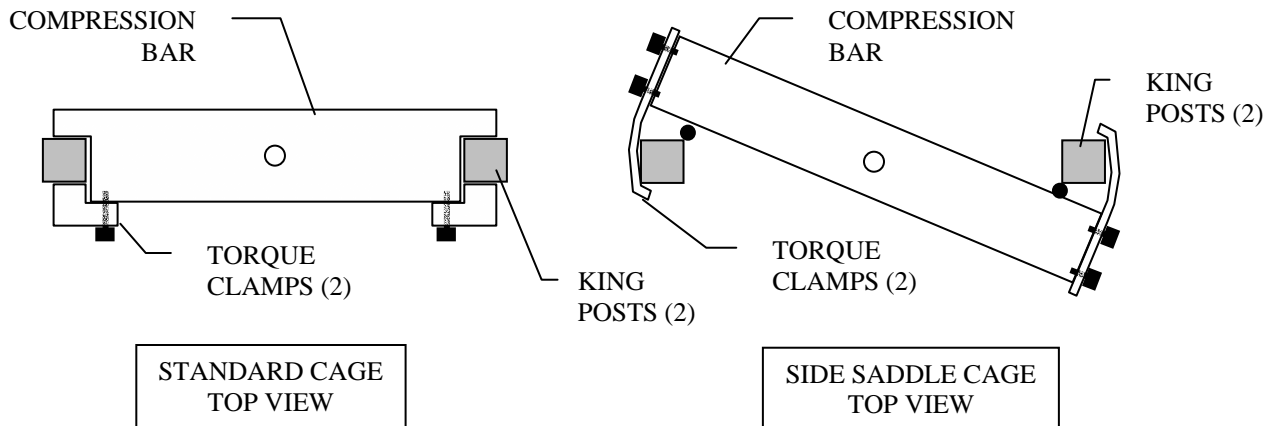

Figure 4.9 - CAGE REFERENCE
- Standard Compression Cages will fit in between the King Posts of the Tester. Side Saddle type cages will go diagonal from behind the left King Post to in front of the right King Post. For cage orientation, refer to Figure 4.9 - CAGE REFERENCE below.